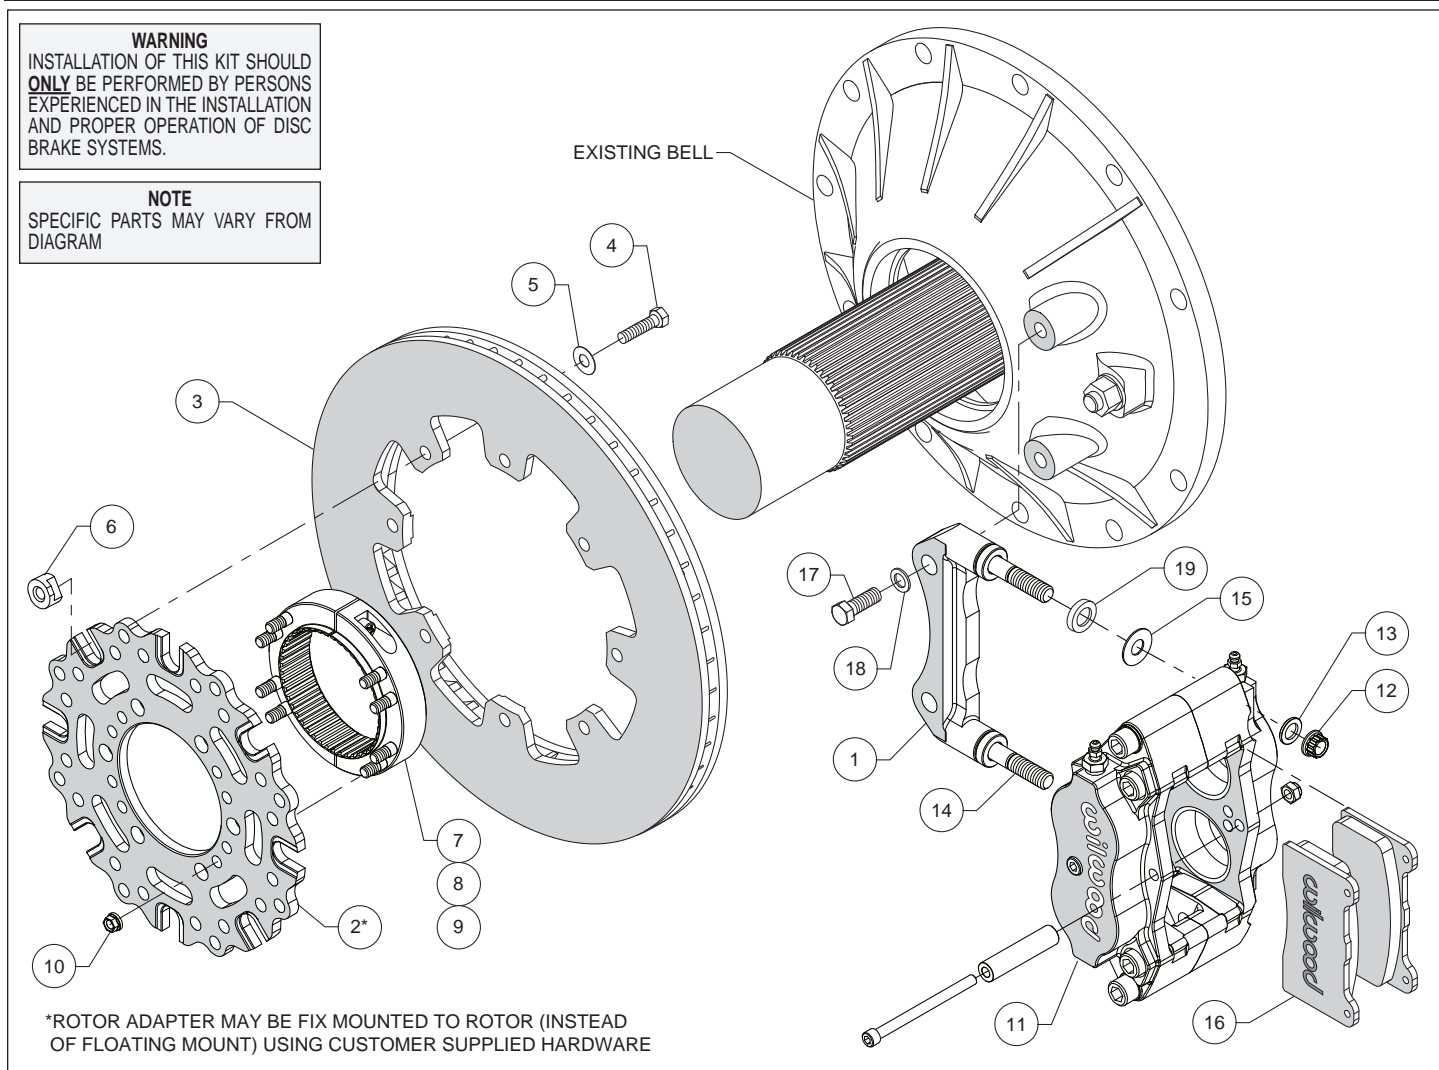

Figure 1. Typical Installation Configuration
- Orient the caliper mount bracket (1) as shown in Figure 1 and install using bolts (17) and washers (18). Temporarily tighten the mounting bolts. **NOTE:** The bracket must fit squarely against the mount bosses on the bell. Inspect for interference from casting irregularities, machining ridges, burrs, etc. Remove the bracket mounting bolts one at a time, apply red *Loctite*® 271 to the threads, and torque to 60 ft-lb.
- Orient the rotor adapter (2) and the rotor (3), as shown in Figure 1, and attach using bolts (4), washers (5) and t-nuts (6), Figure 1. Apply red *Loctite*® 271 to the bolt threads before installing. Finger tighten. After all t-nuts have been installed, torque bolts in an alternating sequence to 220 in-lbs. Please refer to Wilwood's data sheet DS-669 (available at www.wilwood.com/Pdf/DataSheets/ds669.pdf) for complete t-nut bolt kit installation instructions. **NOTE:** Rotor adapter may be fix mounted to rotor (instead of floating mount) using customer supplied hardware.
- Orient the axle clamp assembly (7, 8 and 9, pre-assembled) as shown in Figure 1 and install onto the rotor adapter (2) using nuts (10). Tighten nuts part way while still allowing clamp-to-rotor movement. The nuts will be torqued later, after aligning the rotor. **NOTE:** *The axle clamp should be positioned inside of the rotor as shown in Figure 1, not offset, or outside of the rotor adapter.*
- Lubricate the caliper mounting studs (14) with lightweight oil. Initially place one .030" thick shim (15) and one spacer (19) on each stud as shown in Figure 1. Mount the caliper (11) onto the bracket (1) using lock nuts (12) and washers (13), Figure 1. Temporarily tighten the lock nuts and view the rotor through the top opening of the caliper. The rotor should be centered in the caliper. If not, slide the rotor/adapter assembly on the axle until the rotor is centered in the caliper. Tighten the clamp bolts (9) first, locking the clamp to the axle. Torque nuts (10) to 140 **in-lbs**.
- Remove the caliper center bridge pad retainer bolt, nut, and tube from the caliper. Insert the brake pads (16) into the caliper, with the friction material facing the rotor. Check that the top of the brake pad is flush with the outside diameter of the rotor. If not, adjust by adding or subtracting shims (15) between the caliper and the bracket. After the caliper pad height is set, torque the caliper lock nuts (12) to 30 ft-lb. Secure the brake pads in place with the center bridge pad retainer tube, bolt, and locknut. The locknut should be snug without play in the bolt or tube. Be cautious not to over tighten.